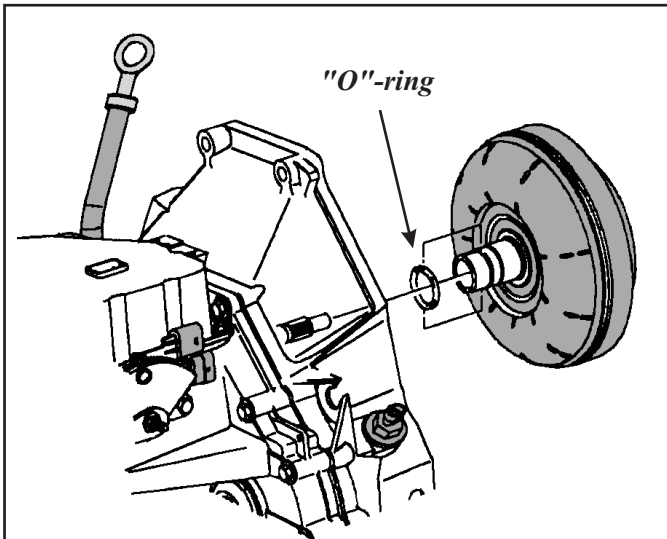

Figure 228
71. Install a new O ring onto the converter hub and lubricate well with petroleum jelly (See Figure 228).
72. Install the torque converter with a rotating motion to align the input shaft splines and pump drive slots to the converter (See Figure 228).